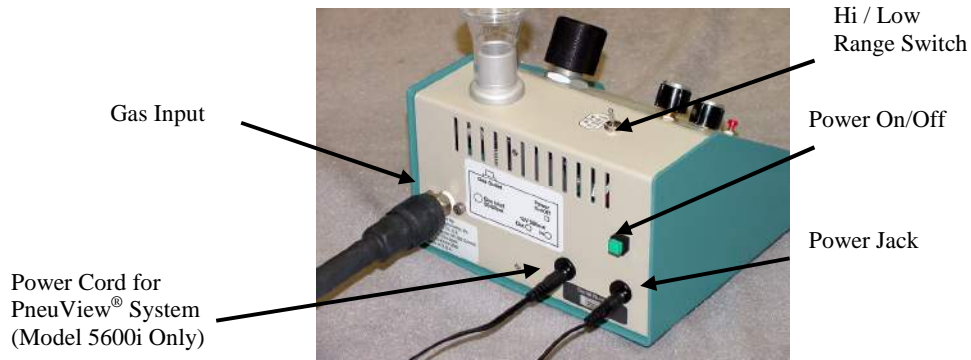

Figure 5
4. Connect the supplied *Gas Input Hose* to a source of air (or Oxygen) at 50 – 60 psi. Connect the other end to the *Gas Input* on the back of the *Breath Simulation Module*. (Figure 5)
3. The breath rate is continuously adjustable using the Breath Rate knob. Two ranges are available using the switch on the top of the unit (Figure 5.) Breath rates from 1 – 16 BPM are available with the switch in the up position, and 2 – 60 BPM in the down position. Turning the knob clockwise increases the breath rate.